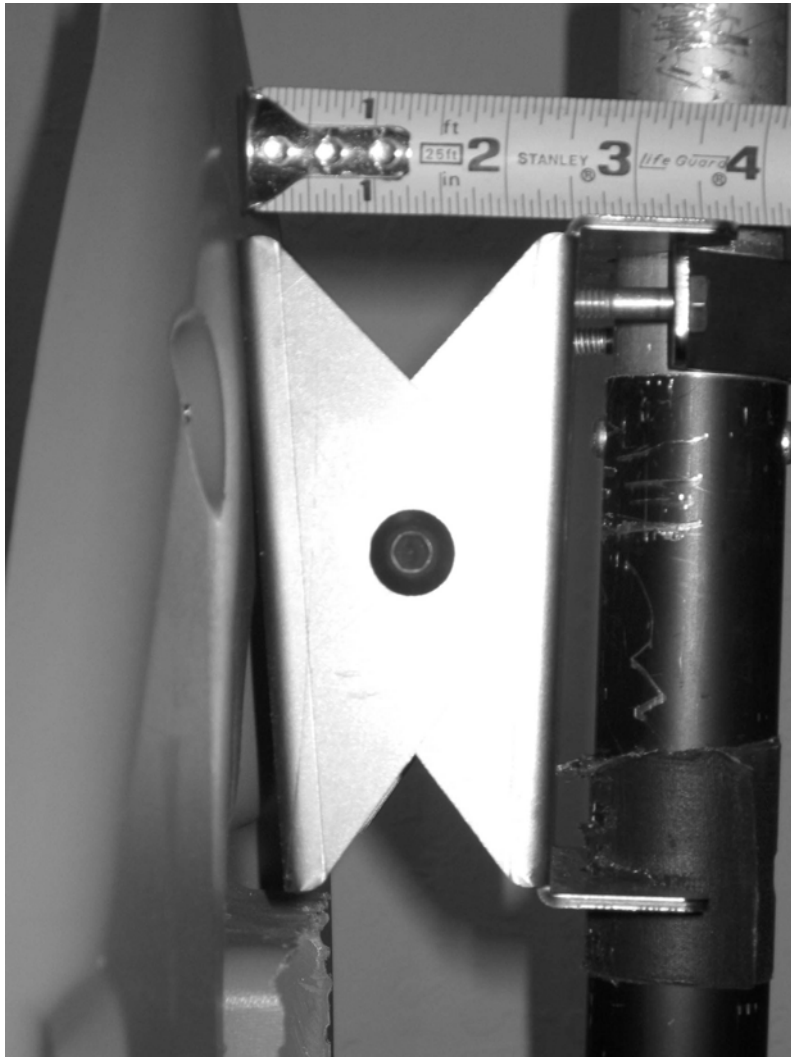

Figure 8-1: Measure CPE top tiltdown.
- 2) Measure the down tilt. A simple way is to use a ruler and write down the difference in distance between the upper and lower edges of the antenna brackets (see Figure 8-1).